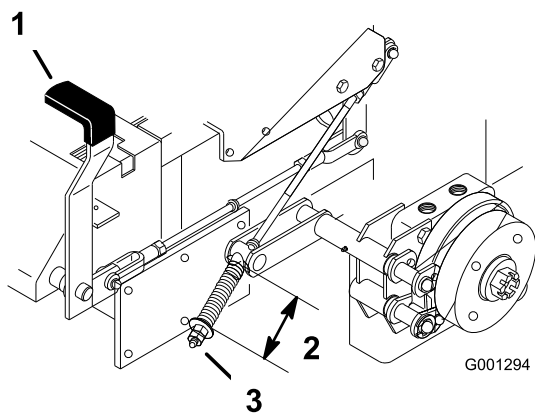

Figure 66
2. Measure the length of the spring. Measurement should be 64 mm (2-1/2 inches) between the washers (Figure 66).
3. If adjustment is necessary, release the parking brake, loosen the jam nut below the spring, and adjust the nut directly below the spring (Figure 66).